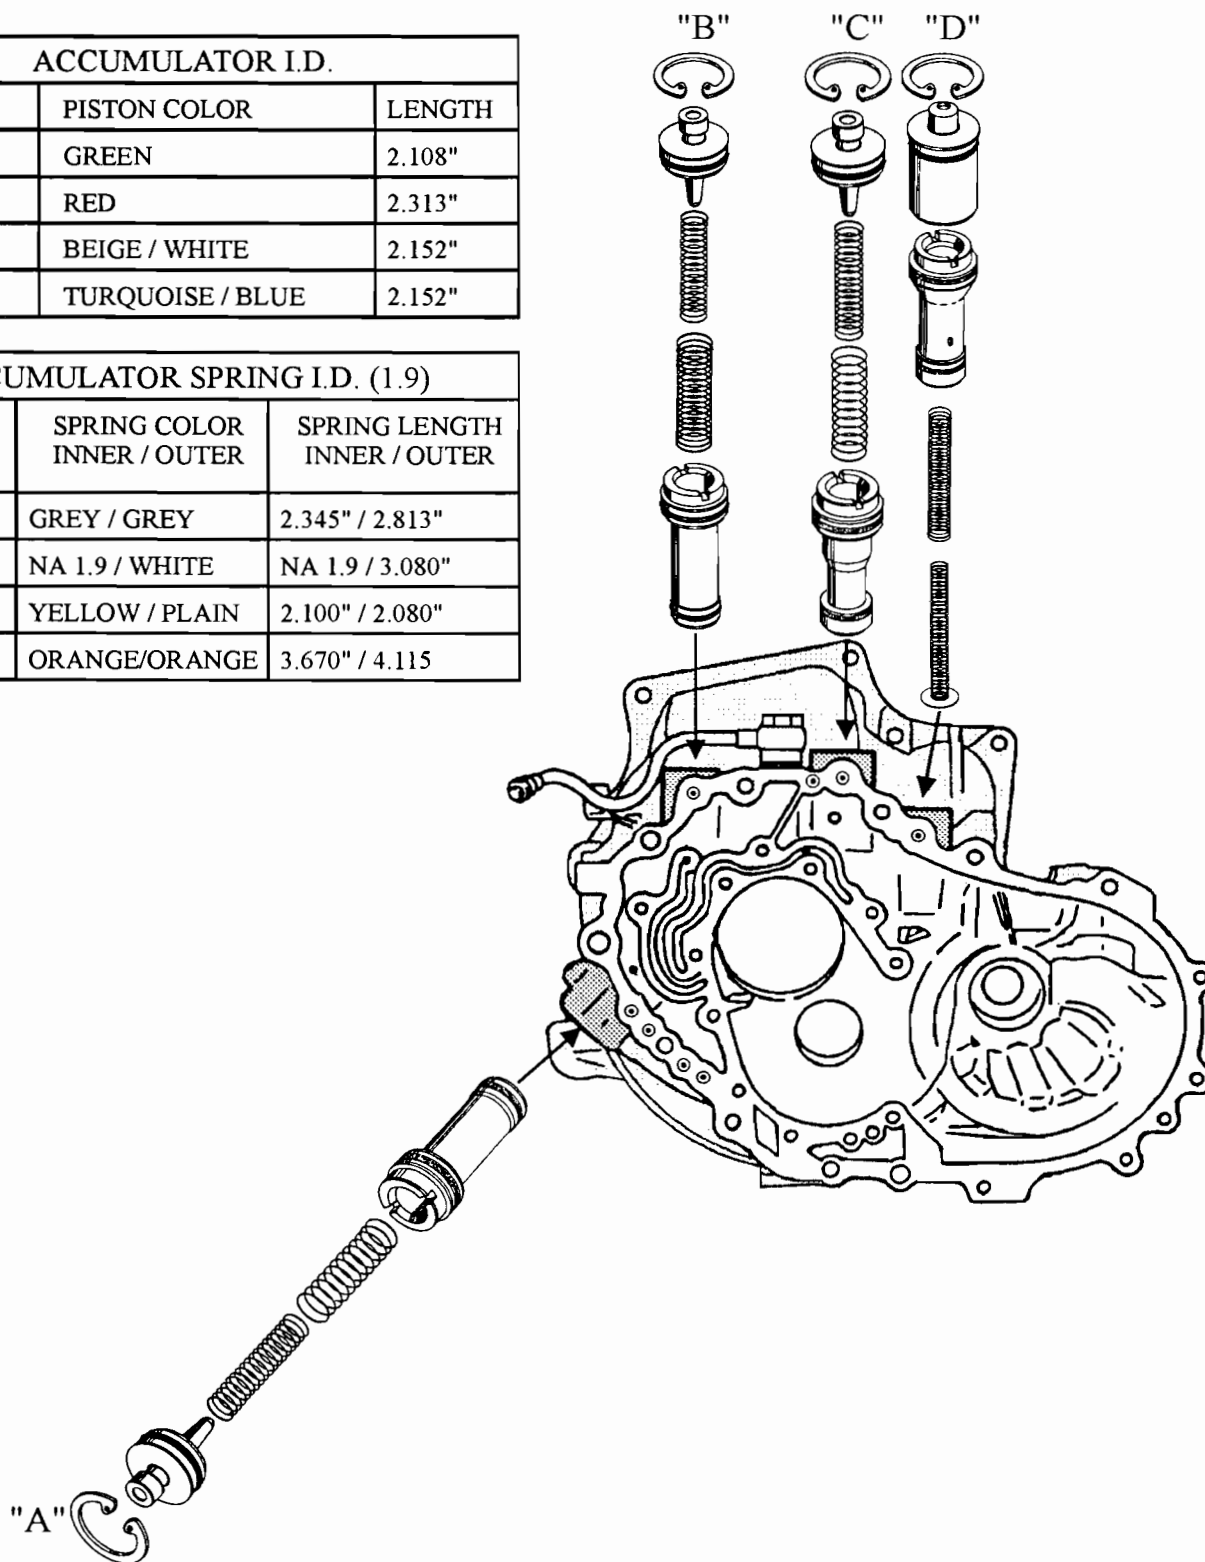

Figure 45
**CORRECTION:** A: See figure 45 for the correct accumulator identification and assembly.
B: See figure 45 for the correct accumulator identification and assembly or replace the damaged sealing ring.